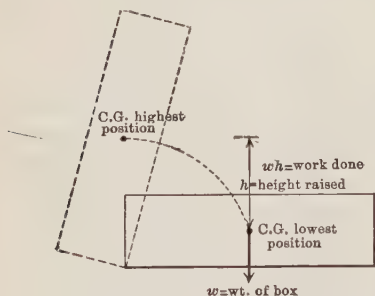

FIGURE 541. — The stability of a box is greatest when the most work has to be done to tip it to a new position.
The stability of an object is measured by the amount of work required to make it take a new position. In Figure 541,  $w$  indicates the weight of the box, and  $h$  the height to which the center of gravity must be raised before the weight of the box will make it take a new position. Then  $wh$  is the work done in tipping the box up on end. In the other figure (542).